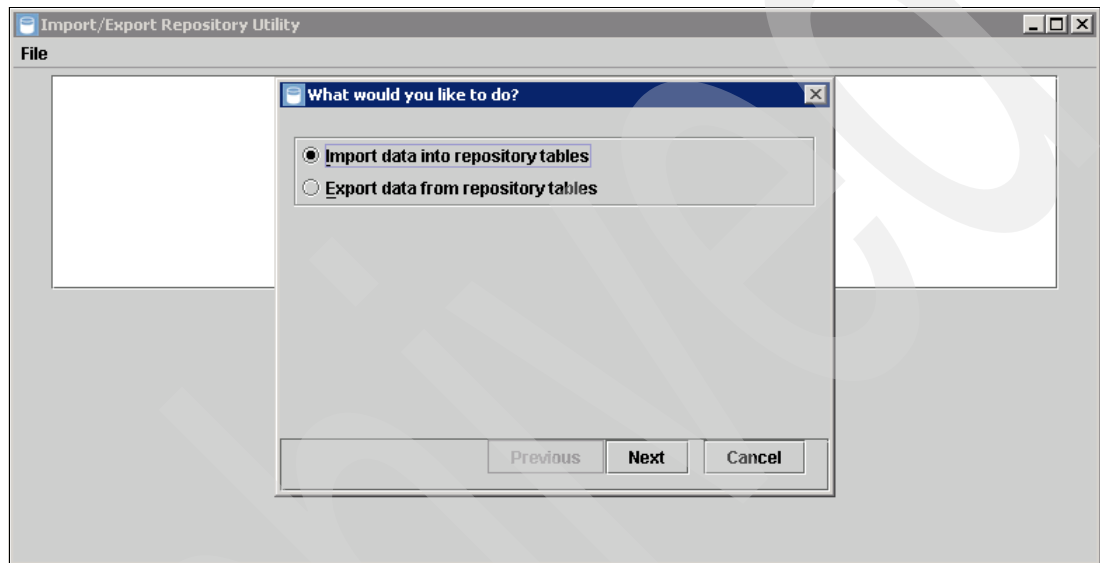

Figure 6-80 Run Repocopy and select the function you want
2. Run **repocopy.bat** (Windows) or **repocopy.sh** (UNIX or Linux) as shown in Figure 6-80.